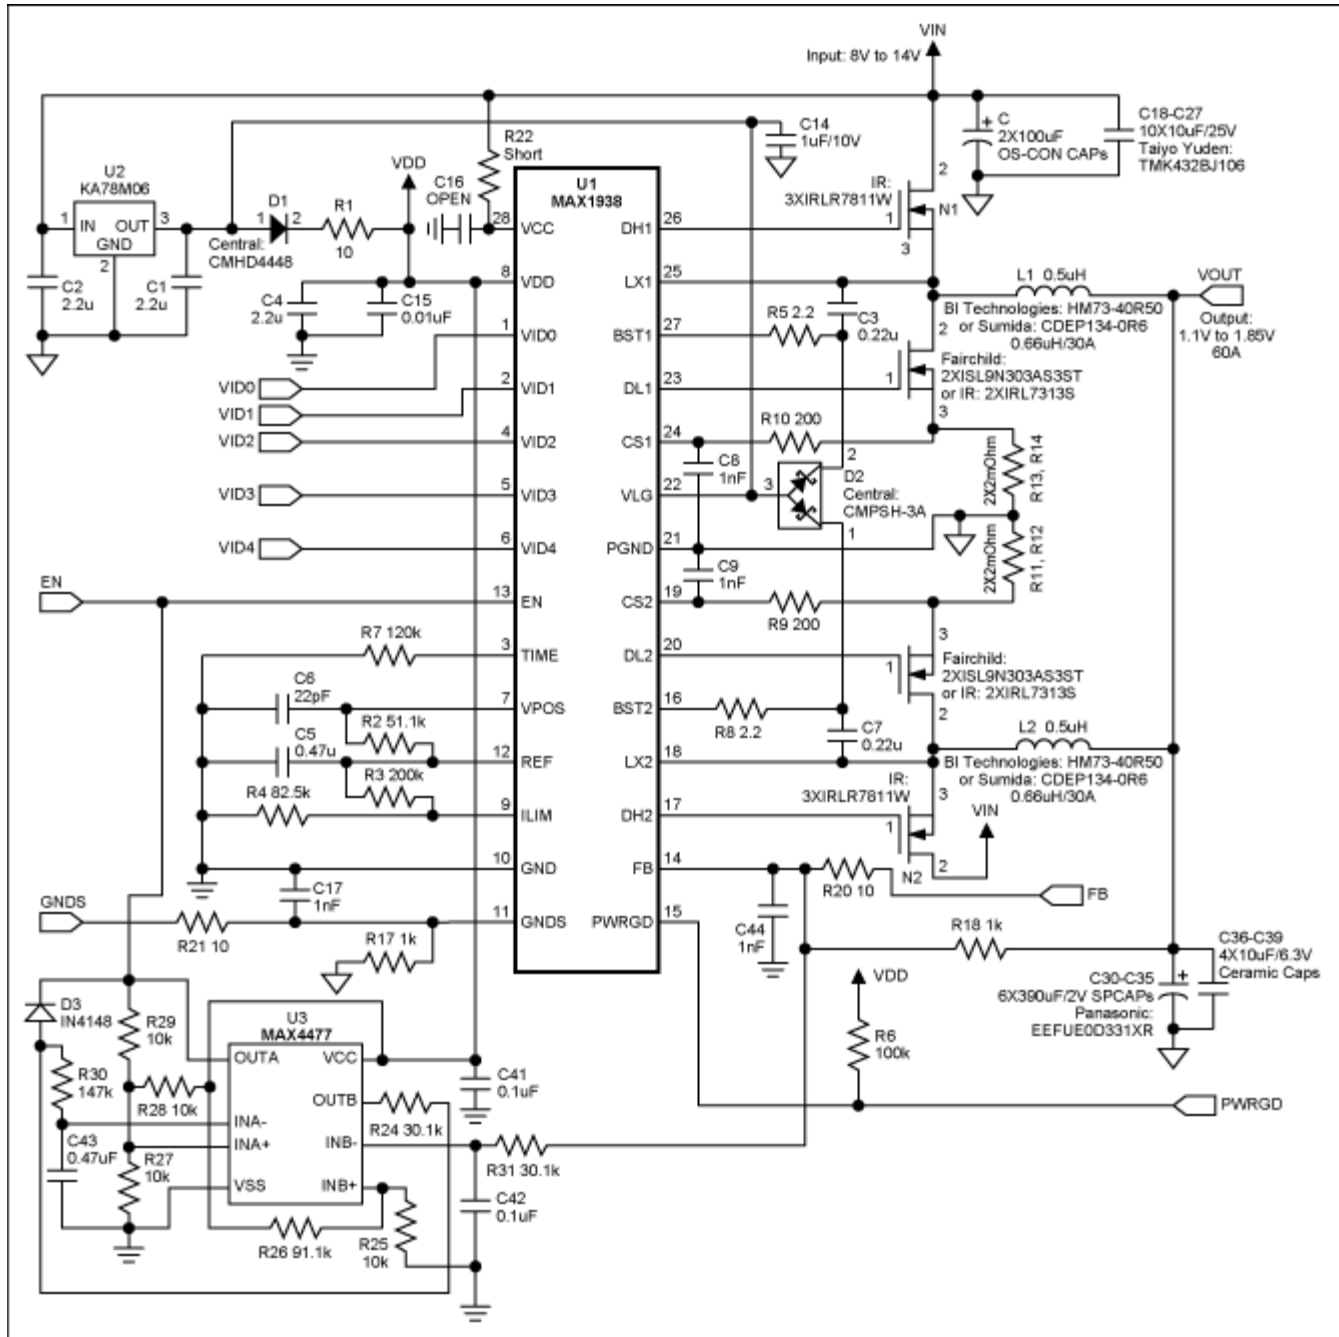

Figure 1. The MAX1937 dual phase 60A output current CPU core supply with hiccup mode.
**Figure 1** shows the schematics of the MAX1937 with the hiccup mode feature.
In Figure 1, the MAX4477 with the external components provide the hiccup feature. There are two comparators inside the MAX4477: comparator A and comparator B. Comparator B is used to monitoring the output voltage and